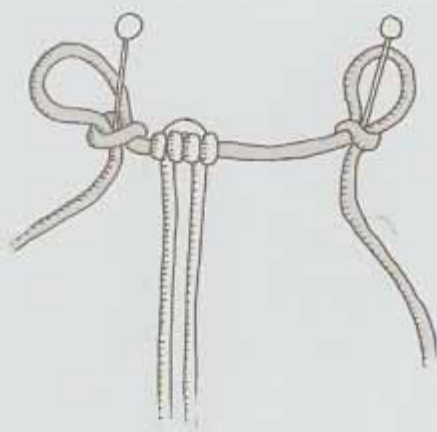

Fig. 2
There are unlimited variations of knotted chains (also called sennits) that can be created. You have already been introduced to the Square Knot Chain. I would like to introduce you to a few more of my favorites. If you still have plenty of cord to work with on your practice piece, use that. But if you are running low on cord you can cut some pieces approx. 24" and make an **OVK** (see Figure 2) in the center of each. Pin through the knot and onto the board.
3. Variation 1 - Take one of the Main Color cords, double it and attach it to the **AC** with a **MTK** (Mounting Knot). Tighten and slide it to the left, close up against the first **SLK** (see Figure 2). Add the other 4 warp cords in the same way. **Variation 2** - Add a seed bead to each cord and position the bead at the center of the strand and fold cord in half to mount. Keep the bead top/center of the **MTK**. **Variation 3** - Attach 2 cords of color A, 1 of Color B, and 2 of Color A to the **AC**.